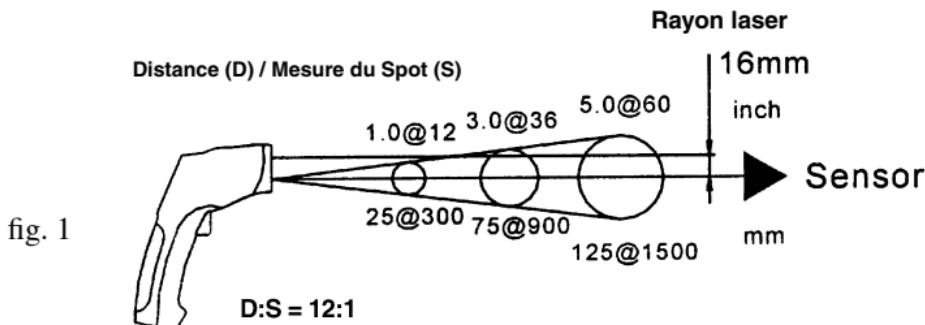

fig. 1
As the distance (D) from the object increases, the spot size (S) of the area measured by the unit becomes larger. See fig. 1.